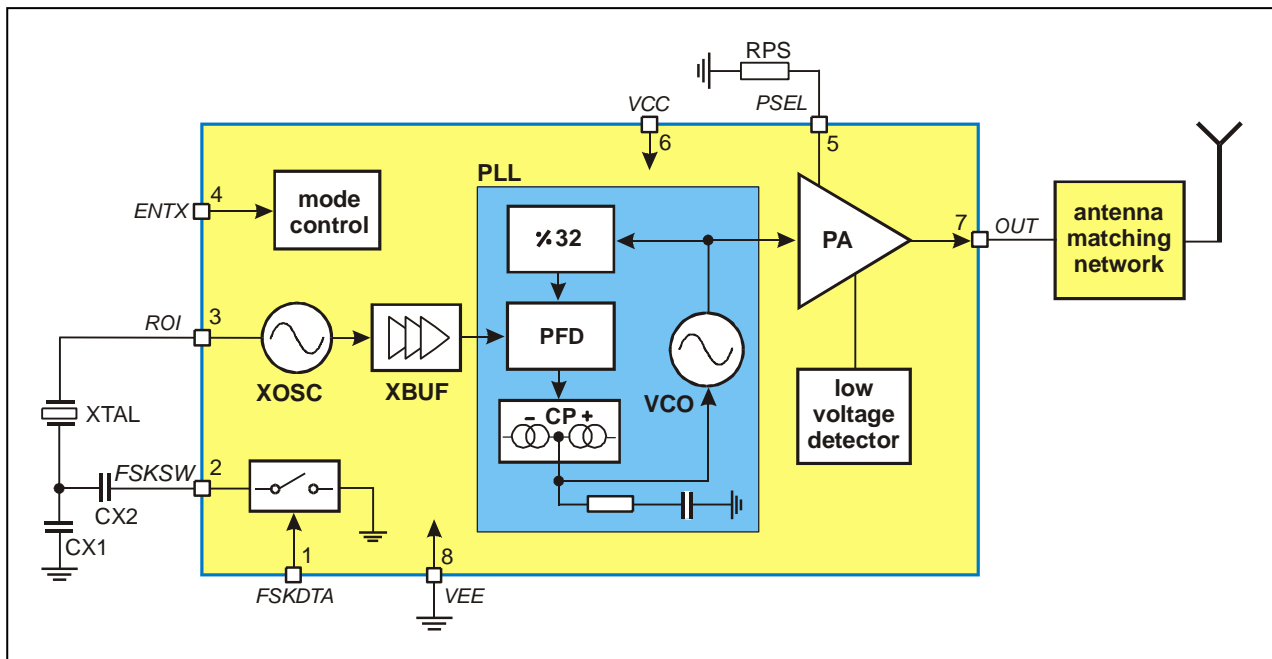

Fig. 1: Block diagram with external components
As depicted in Fig.1, the TH72011 transmitter consists of a fully integrated voltage-controlled oscillator (VCO), a divide-by-32 divider (div32), a phase-frequency detector (PFD) and a charge pump (CP). An internal loop filter determines the dynamic behavior of the PLL and suppresses reference spurious signals. A Colpitts crystal oscillator (XOSC) is used as the reference oscillator of a phase-locked loop (PLL) synthesizer. The VCO's output signal feeds the power amplifier (PA). The RF signal power  $P_{out}$  can be adjusted in four steps from  $P_{out} = -12$  dBm to +10 dBm, either by changing the value of resistor RPS or by varying the voltage  $V_{PS}$  at pin PSEL. The open-collector output (OUT) can be used either to directly drive a loop antenna or to be matched to a 50ohm load. Bandgap biasing ensures stable operation of the IC at a power supply range of 1.95 V to 5.5 V